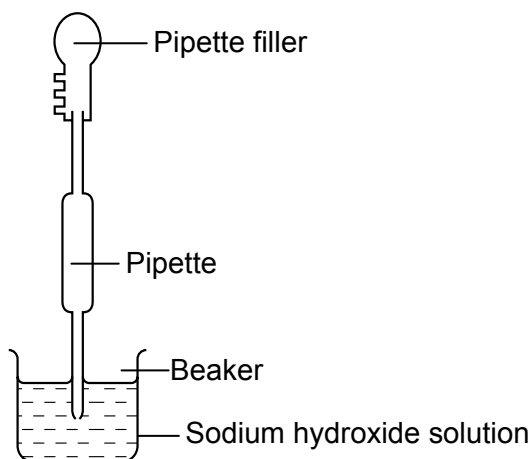

Figure 1.1 A pipette safety filler is used to draw a measured volume of sodium hydroxide solution from the beaker into the pipette.
2. Pipette exactly 25.0 cm^3 sodium hydroxide solution into a clean conical flask (Fig. 1.1). The pipette can be cleaned in a similar way to the beakers, remembering to finish by washing it out with a little of the alkali solution twice to ensure no dilution will take place when using the pipette.